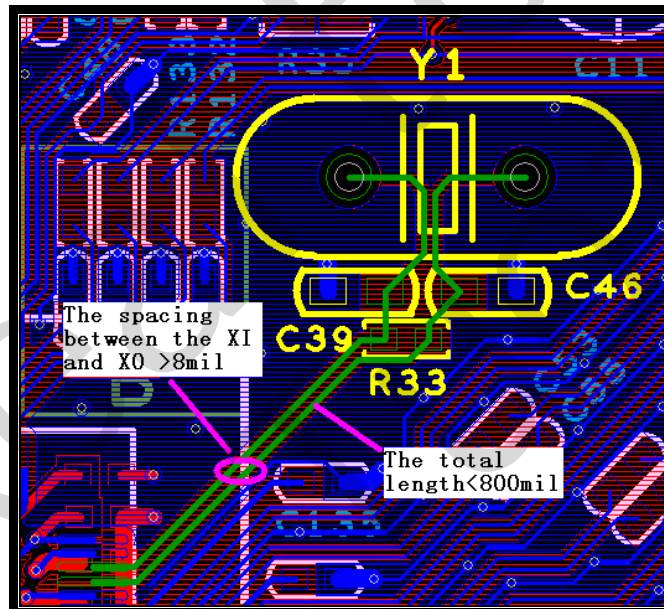

Figure 1 . The clock traces recommended moves
- Keep the trace between the crystal PIN and RTL838x clock PIN(pin 105,106) less than 800mil, and the spacing of XI and XO greater than 8mil (see figure 1).
- Ensure clock traces have an unbroken reference ground plane (see Figure 1).